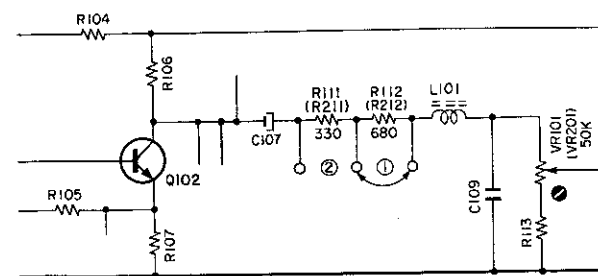

Fig. 7.3
| 7    | Playback Frequency Response            | 400 Hz Level Tape (DA09005A)10 kHz PB Frequency Tape (DA09003A)15 kHz PB Frequency Tape (DA09002A)20 kHz PB Frequency Tape (DA09001A) | VTVM to OUTPUT Jacks                    | Same as above   | Main P.C.B.R112, R212                      | 1. Load the 400 Hz level tape and play it back.2. Load the 10 kHz, 15 kHz and 20 kHz PB Frequency Response Tapes and adjust the record/playback head azimuth to give maximum levels on the VTVM with each tape.Short R112 (R212) to obtain the following levels against 400 Hz level tape. Refer to Fig. 7.3.10 kHz (-20 dB) -2 dB to +2 dB15 kHz (-20 dB) -2 dB to +3 dB20 kHz (-20 dB) -2 dB to +4 dB3. Conduct step 5 "Record/Playback Head Azimuth Alignment"4. If above is not sufficient, refer to "Playback Frequency Response Adjustment" in item 7.2. |